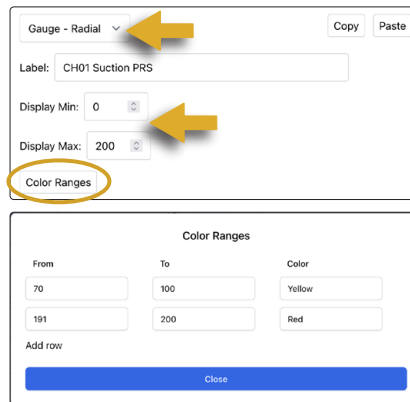
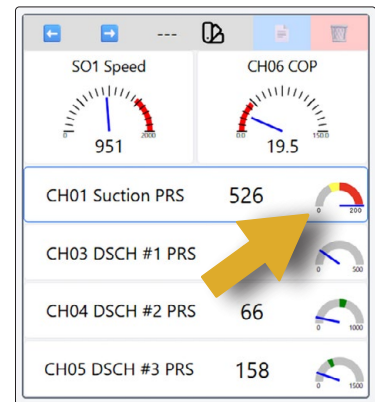

Figure 35
Figure 36
- To add color ranges to the gauge, click the **Color Range button**, and enter the range limits and colors; see *Figure 35*. Also, see *Figure 36* showing the edited gauge.